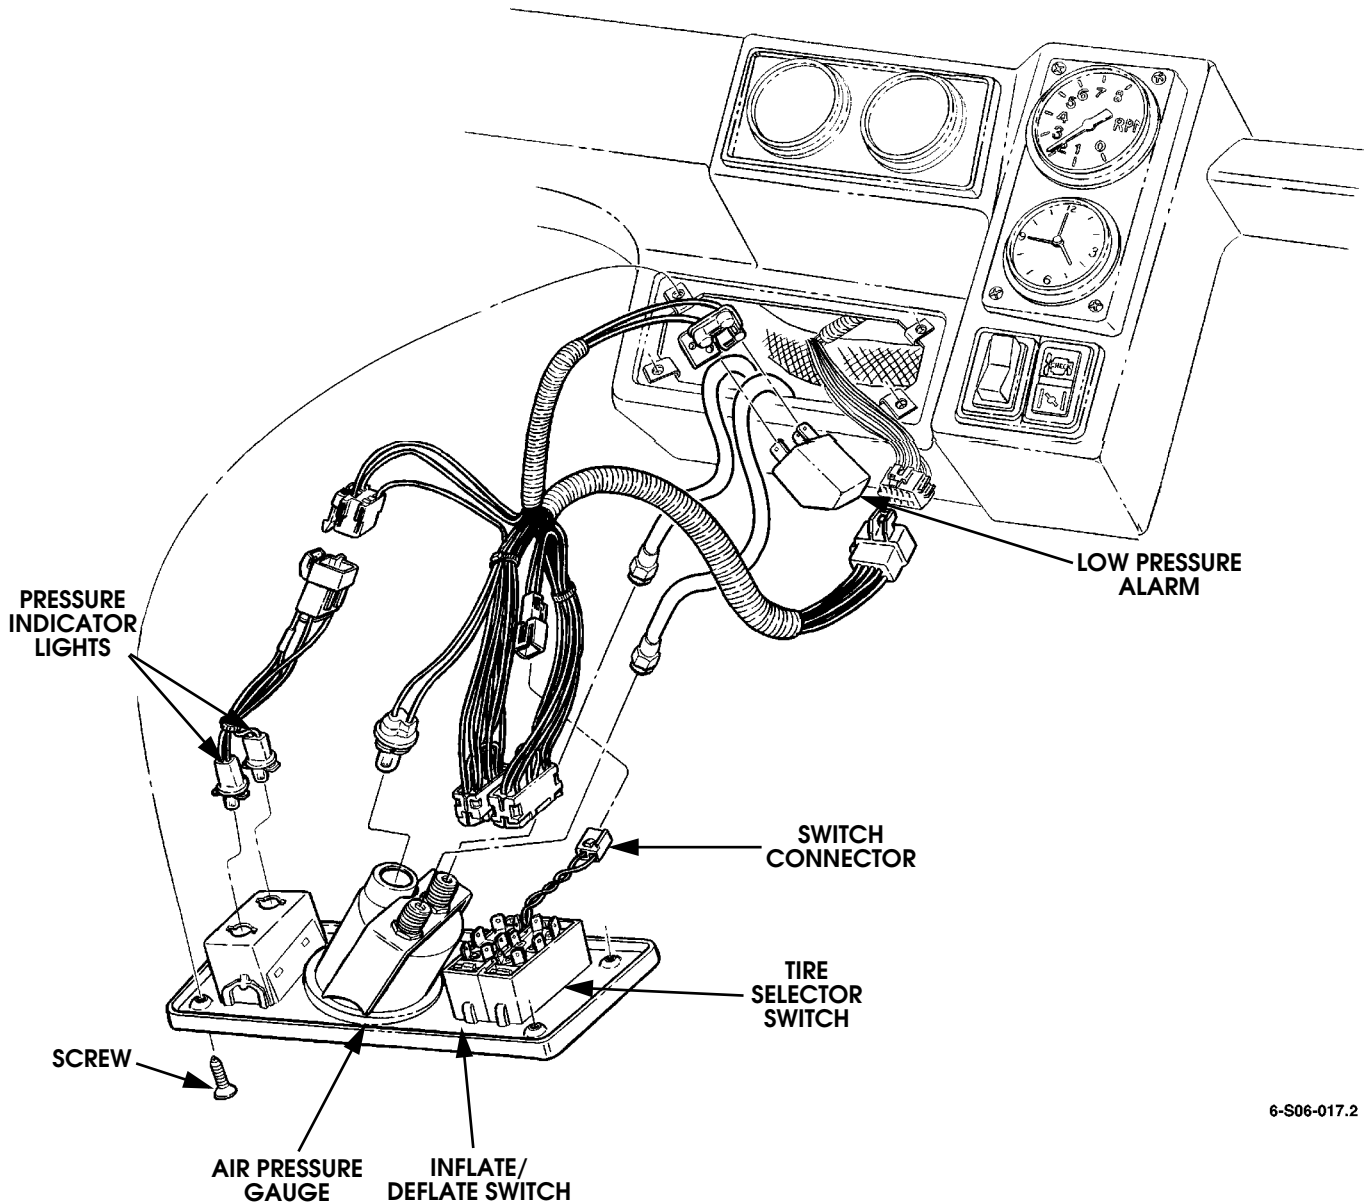

Figure 6-57: CTIS Instrument Cluster Appearance (Viewed from Behind)
1. Remove screws and CTIS instrument cluster from instrument panel. Discard CTIS instrument cluster if damaged. (Figure 6-57).
1. Secure CTIS instrument cluster to instrument panel with screws (Figure 6-57).
2. Disconnect connector from inflate/deflate switch and tire selector switch (Figures 6-57 and 6-58).